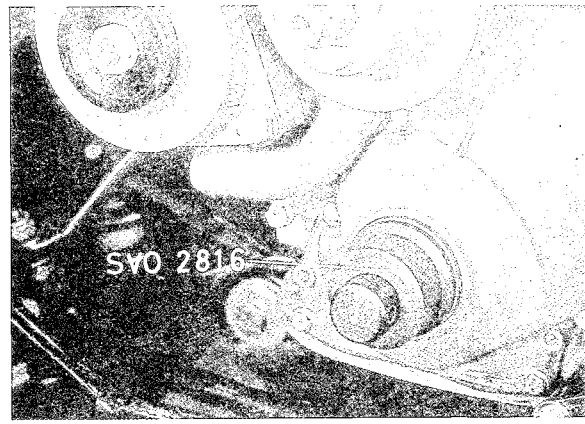
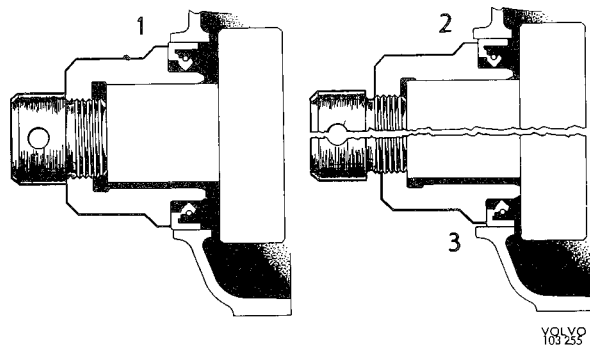

Fig. 2-28. Installing oil seal
Fig. 2-29. Center spindle position on 2816
4. Remove the oil seal. Lubricate the sealing lip on the new seal and fit the seal with drift 2816, see Fig. 2-28. NOTE. First inspect the wear surface of the polygon hub. The oil seal can be fitted in three positions with tool 2816. With a new polygon hub, the center bolt of the tool should be screwed in fully, see Fig. 2-29. In this
Together with the element and relief valve, the oil filter (see Fig. 2-28) is screwed as a complete unit onto a nipple fitted in the cylinder block.